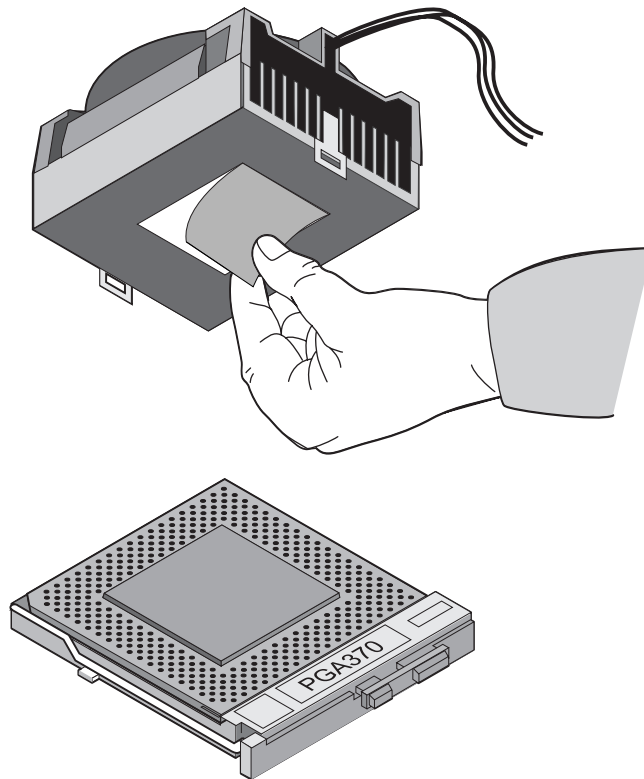

Figure 6. Attaching the Heatsink to the Processor
5. Peel back the plastic cover from the thermal interface on the bottom of the fan heatsink. Place the fan heatsink on top of the processor (see Figure 6).